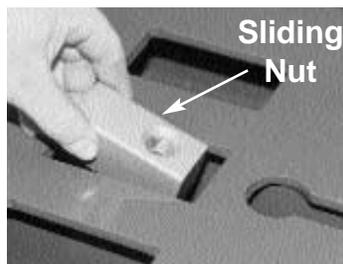

Figure 27
1. Insert sliding nut into tie down hole next to treadway slot and slide it into the treadway slot. (See Figures 27 and 28.)